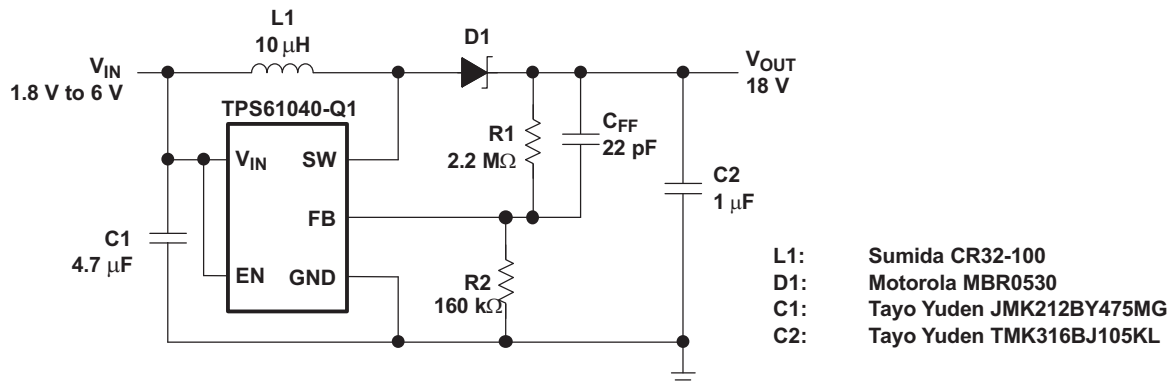

Figure 12. LCD Bias Supply
The following section provides a step-by-step design approach for configuring the TPS61040-Q1 as a voltage-regulating boost converter for LCD bias supply, as shown in Figure 12.
Another important inductor parameter is the DC resistance. The lower the DC resistance, the higher the efficiency of the converter. Table 3 lists few typical inductors for LCD Bias Supply design (see Figure 12), but customers must verify and validate them to check whether they are suitable for their application.
**Table 3. Typical Inductors for LCD Bias Supply (see Figure 12)**
Table 4 lists few typical capacitors for LCD Bias Supply design (see Figure 12), but customers must verify and validate them to check whether they are suitable for their application.
**Table 4. Typical Input and Output Capacitors for LCD Bias Supply Design (See Figure 12)**
To achieve high efficiency, a Schottky diode must be used. The current rating of the diode must meet the peak current rating of the converter as it is calculated in the section peak current control. Use the maximum value for  $I_{LIM}$  for this calculation. Table 5 lists the few typical Schottky Diodes for LCD Bias Supply design shown in Figure 12. Customers must verify and validate them, however, to check whether they are suitable for their application.
**Table 5. Typical Schottky Diodes for LCD Bias Supply Design (See Figure 12)**